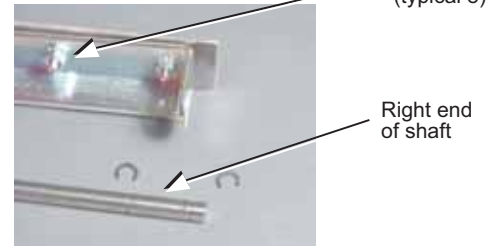

FIGURE 22
4. Remove the 8 blade mounting fasteners and replace the Lower Blade. (figure 22)
**Note:** The right end of the shaft has more space between the end of the shaft and the clip. (figure 22)